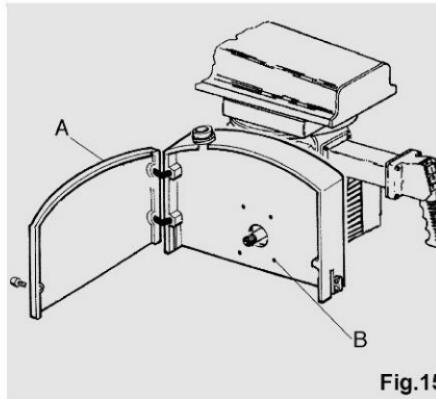
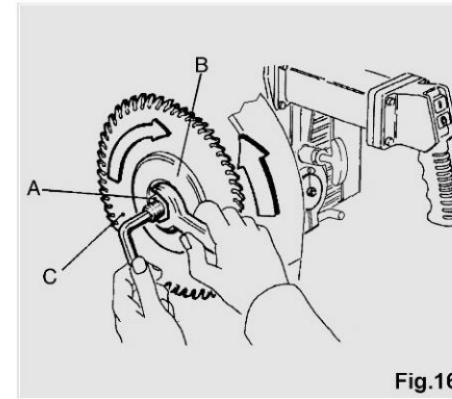

Fig.15
Fig.16
Open the blade cover guard (see point A Fig. 15), slacken the nut with left-hand thread (A) of Fig. 16 keeping the motor shaft still by inserting an Allen wrench and using an open hexagon wrench turning it clockwise.
Mind that the direction of the blade's teeth is the same as shown in Fig. 16. Blades must have a central hole of Ø 30 mm (Ø 1") and max diameter of Ø 400 mm (Ø 14"), Ø 450 mm (Ø 16") depending on the casing and motor (shaft in inches) fitted on the machine